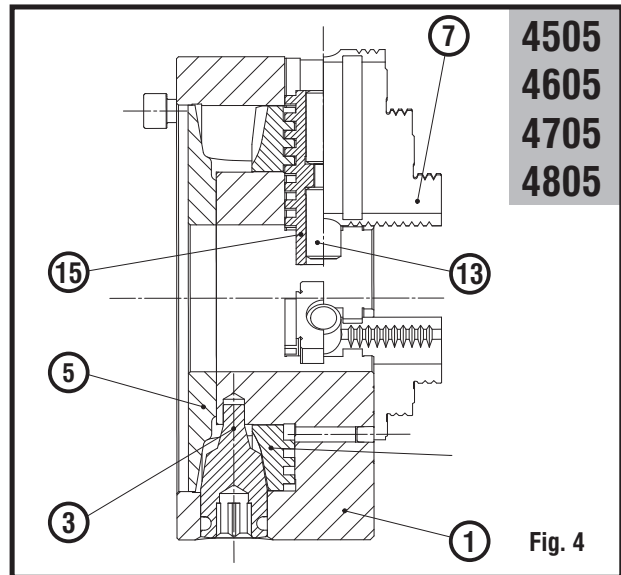

Fig. 4
**NOTE:** (Fig. 4) Screw (13) may only be used for moving the jaws independently to one another. Rotating the pinion (3) with wrench results in a movement of jaws (7) by the same stroke.
The directions apply to chucks with mounting seats according to DIN 55026, DIN 55027, DIN 55029, ISO 702, ANSI B.5.9 and type L (long taper). The chuck should be mounted on the spindle nose. (Accuracy conditions are presented in Fig. 4 and Table 1.) In case of chucks with 7:24 taper tighten the nut provided at the spindle nose.